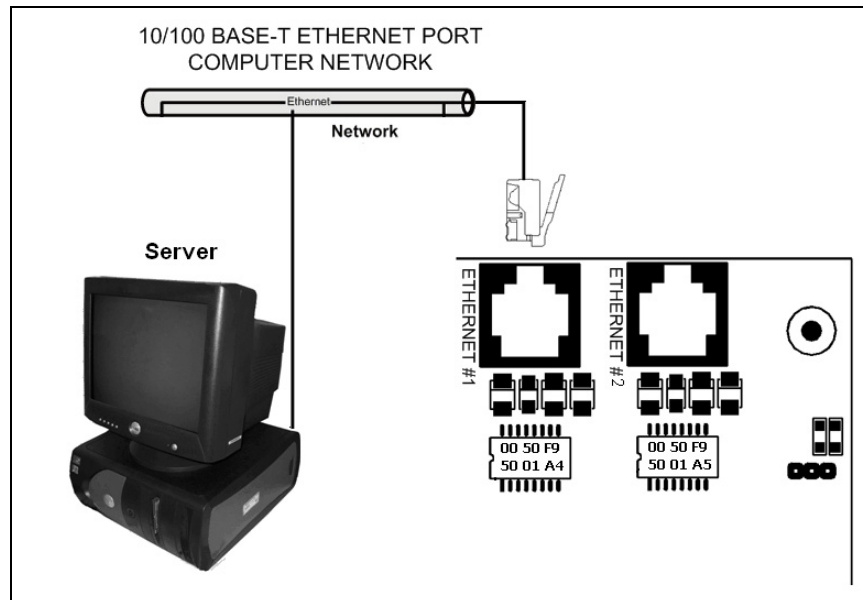

Figure 9: Ethernet Port #1 Connection to KT-NCC
1. Connect the cable from the KT-NCC to the network hosting the server application. Refer to Figure 9: on Page 24 above.